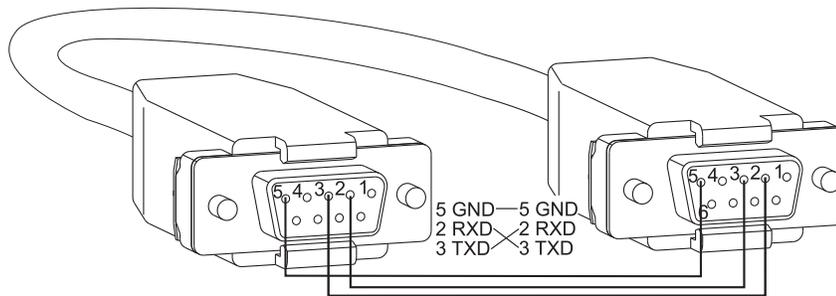

FIG. 7 RS-232 null modem pin diagram, no hardware flow control
1. Use a null modem cable that matches the pin diagram in FIG. 7 for RS-232 without hardware flow control. AMX AutoPatch equipment requires pins 2, 3, and 5 only.